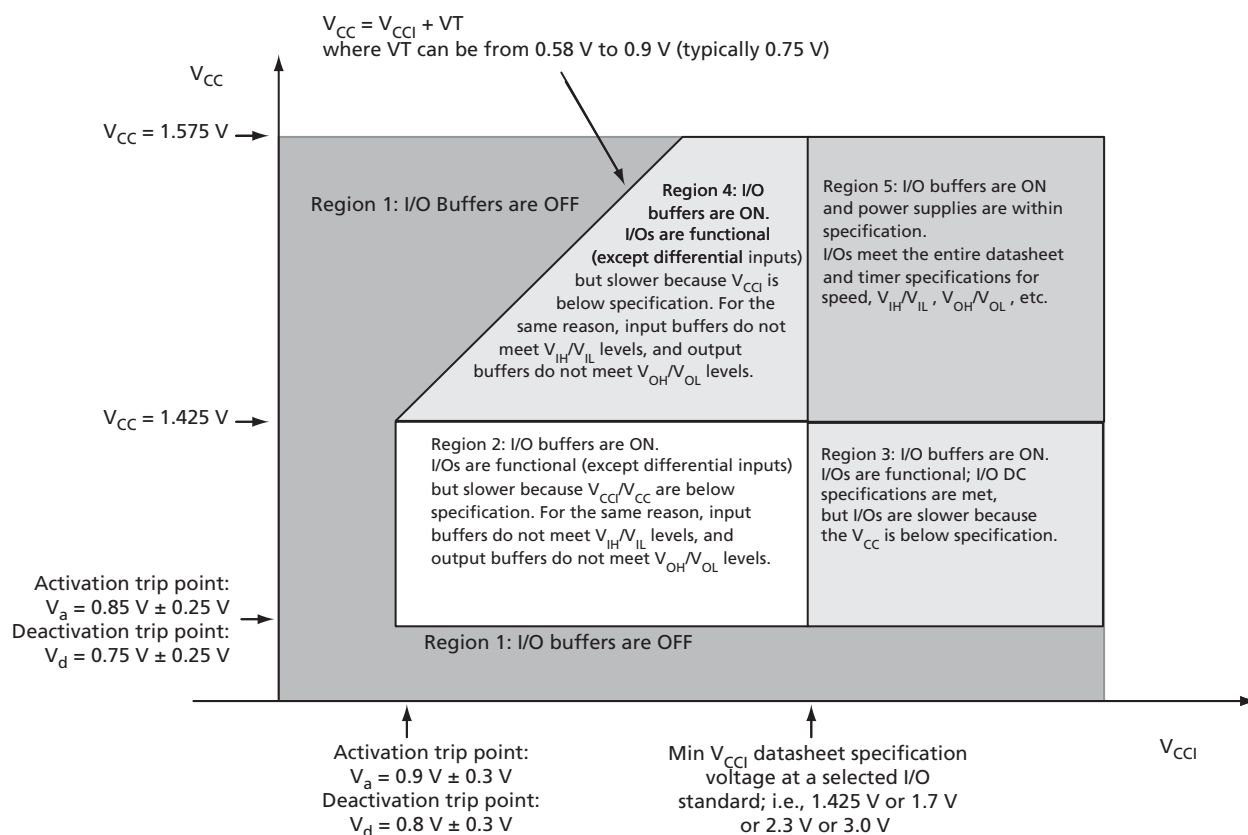
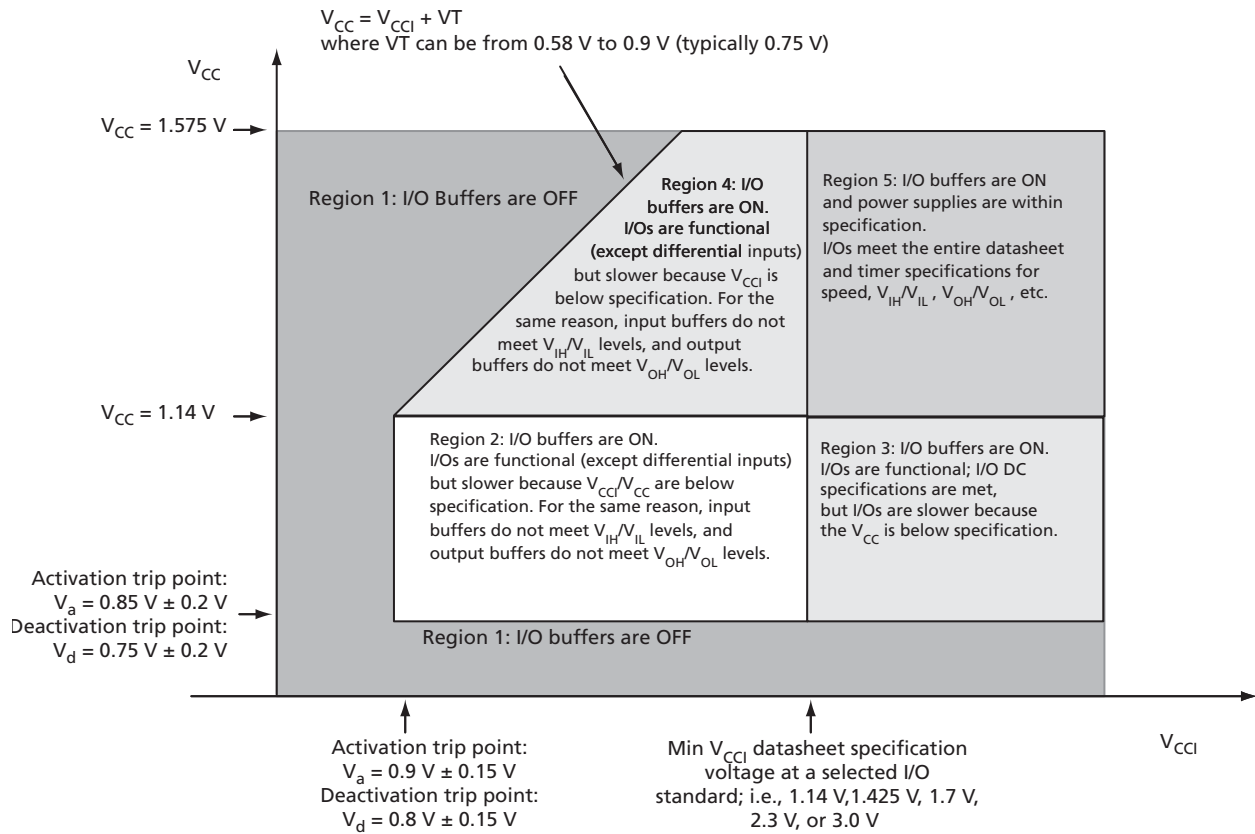

Figure 2-1 • V5 – I/O State as a Function of V_{CC1} and V_{CC} Voltage Levels
Figure 2-2 • V2 Devices – I/O State as a Function of V_{CCI} and V_{CC} Voltage Levels
Sophisticated power-up management circuitry is designed into every IGLOOe device. These circuits ensure easy transition from the powered-off state to the powered-up state of the device. The many different supplies can power up in any sequence with minimized current spikes or surges. In addition, the I/O will be in a known state through the power-up sequence. The basic principle is shown in Figure 2-1 on page 2-4 and Figure 2-2 on page 2-5.
1. V_{CC} and V_{CCI} are above the minimum specified trip points (Figure 2-1 on page 2-4 and Figure 2-2 on page 2-5).
Actel recommends using monotonic power supplies or voltage regulators to ensure proper powerup behavior. Power ramp-up should be monotonic at least until V_{CC} and V_{CCPLX} exceed brownout activation levels. The V_{CC} activation level is specified as 1.1 V worst-case (see Figure 2-1 and Figure 2-2 on page 2-5 for more details).